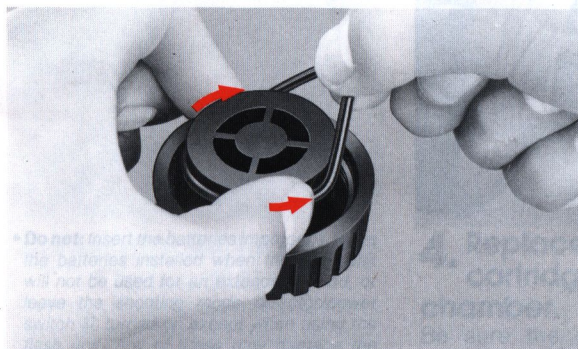

Fig. 1
1. To remove the O-rings, except the one in the synchro socket cover, grasp the ring between your thumb and forefinger. Pinch your fingers together as you slide them in the direction of the arrow to create slack in the O-ring. Then grasp the slack portion with your other hand and pull the ring off (see Fig. 1). To remove the O-ring in the synchro socket cover, use the edge of a credit card or dive card or some thin, **blunt**, instrument. **Never use a knife or other sharp-edged object.** Push up on the center of the cover with a fingertip (or pointed object), insert the card under the ring, and pull it up to lift the O-ring out (see Fig. 2). Do not scratch the O-ring in the process.